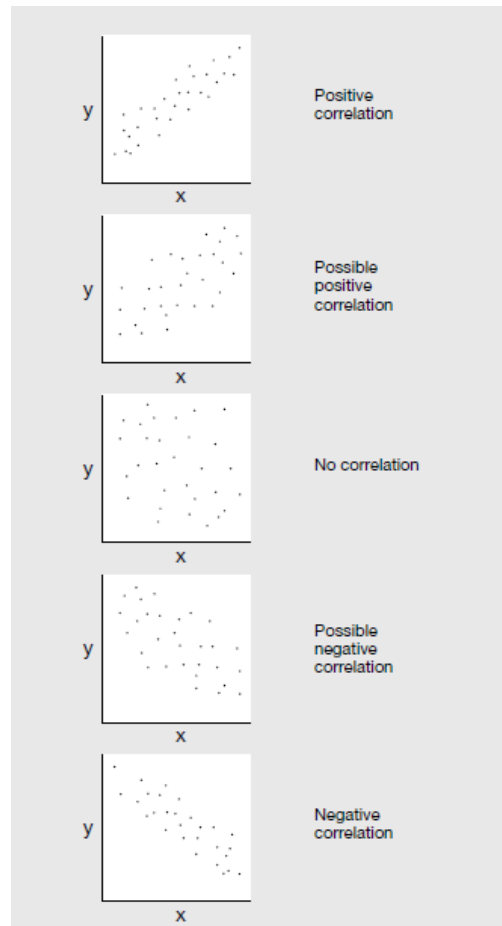

Figure 2.6.5a Scatter Diagram Patterns and Interpretations
Figure 2.6.5a shows five (5) patterns namely, positive correlation, possible positive correlation, no correlation, possible negative correlation and negative correlation. Basically, there are three (3) types of correlation.